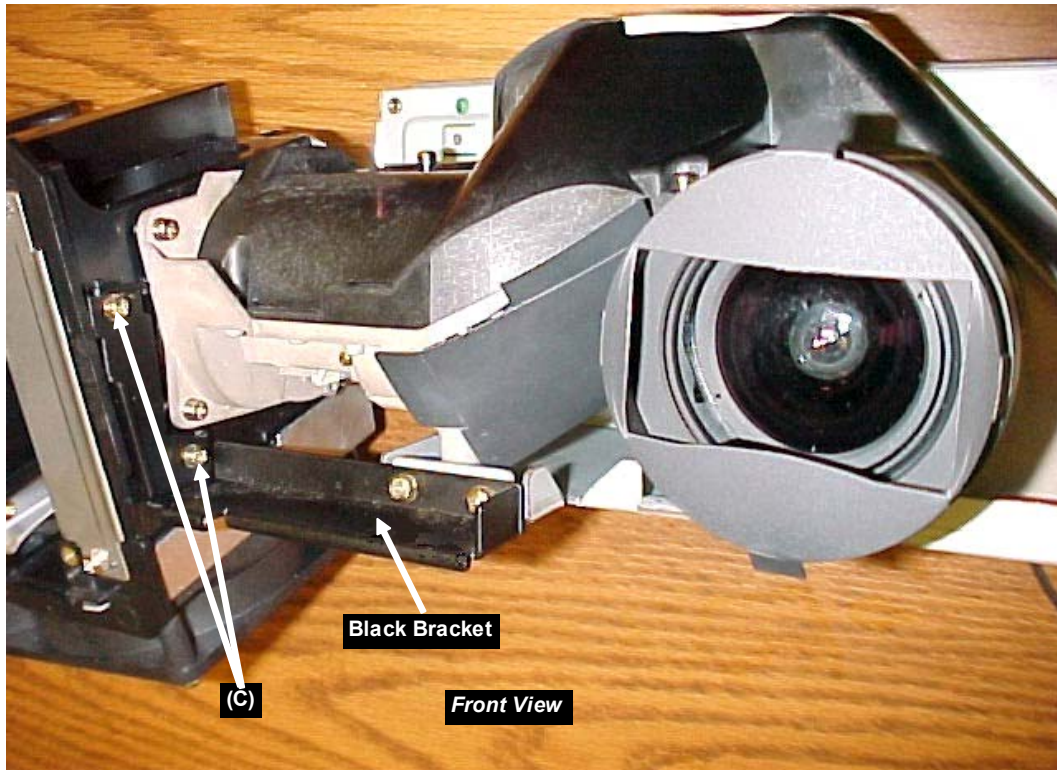

Figure 3: Black Support Bracket
- 2) Remove the two screws (c), holding the Black Bracket to the Lamp Box. (*Figure 3*)